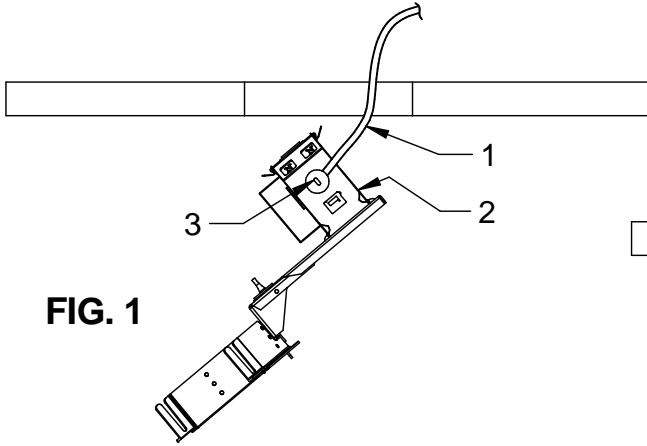

FIG. 1
- A. Remove junction box cover (2) and install supply line (1) to junction box (3) through one of the knock-outs provided in junction box (3) and attach it in conformance with the National Electric Code. Install appropriate connector(s) for the supply wire used. Connect ground wires to green ground leads. Connect white (common) to white fixture leads. Connect power supply (line) to black fixture leads. Put all wires inside of junction box (3) and reinstall junction box cover (2). (SEE FIG. 1)
- B. Slip junction box assembly and ring "A" through hole in ceiling. (SEE FIG. 1) NOTE: For more complicated driver and/or controls options, it may be required to temporarily disassemble the driver and/or control assemblies to slip the junction box assembly through ceiling and then re-install the driver and/or control assemblies above ceiling as required.